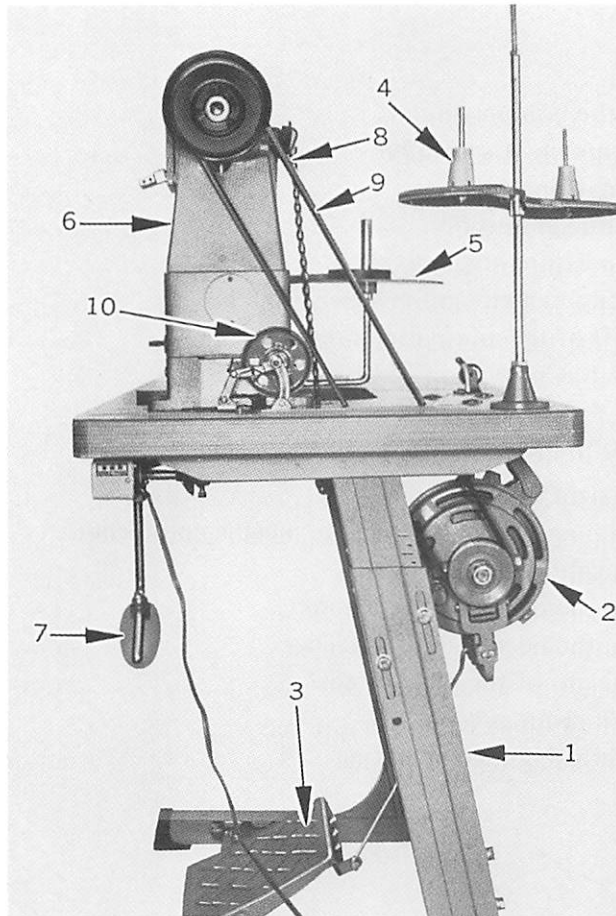
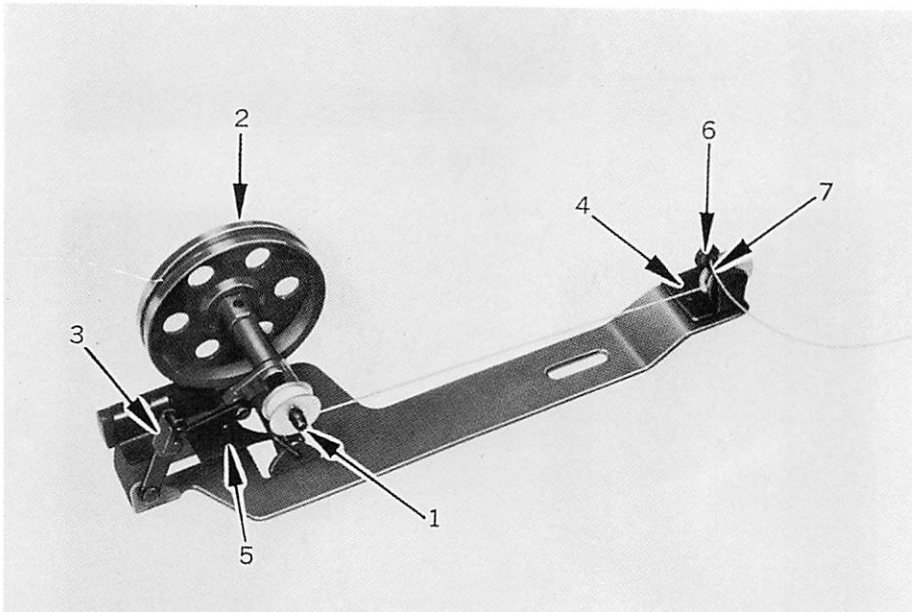

Fig. 1
Fig. 4
### SETTING UP THE MACHINE (Fig. 1)
**WINDING THE LOWER THREAD ON THE BOBBIN (Fig. 4)**
1. Push a bobbin on the bobbin winder spindle (1) as far as it will go.
2. Pass the thread from the thread stand downward through the eye (7) in the tension bracket, then between and around the back of the tension disc.
4. Push the lever (3) toward the other side so that the pulley (2) and V belt (9, Fig. 1) will engage and then start the machine.
5. The pulley (2) will automatically be free from the belt and stopped after the bobbin is filled with thread.
**ADJUSTMENT OF THE BOBBIN WINDER (Fig. 4)**\* **IN CASE OF UNEVEN WINDING**